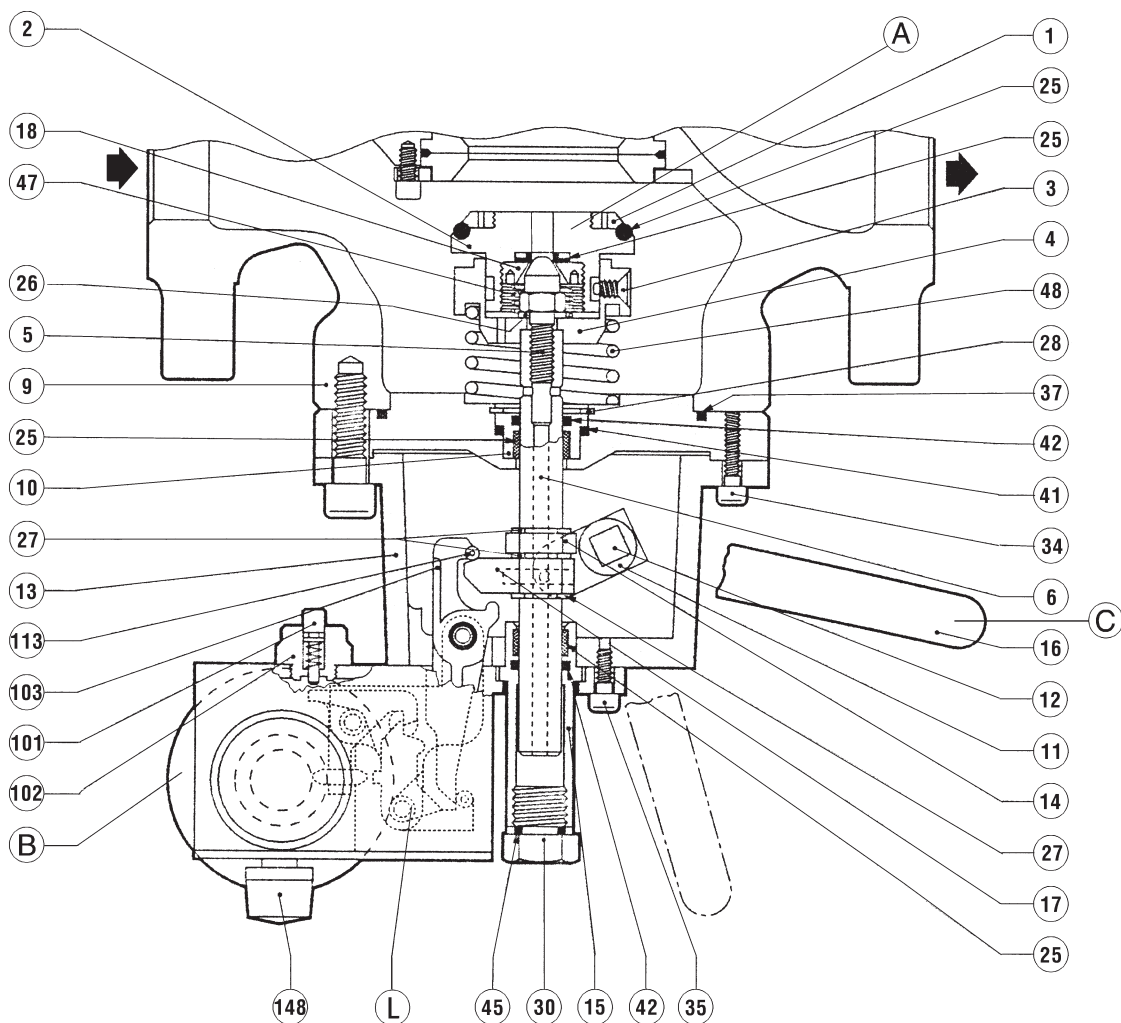

Fig. 9
4.2.1 SB/82 SLAM-SHUT OPERATION (FIG. 9)
The SB/82 slam-shut device (see fig. 9) consists of an obturator A, a releasing lever system, a control head B and a resetting system which is controlled manually by the lever C. The pressure in the circuit to control acts on the diaphragm in the control head B. This diaphragm, which is integral with a control rod D, receives a counter-force by means of the minimum pressure springs 17 and the maximum pressure springs 11, set at the preset values . The translation movement of this rod provokes the displacement of the lever L which controls the release of the entire mobile system and frees the obturator which is closed by the action of the spring 48.